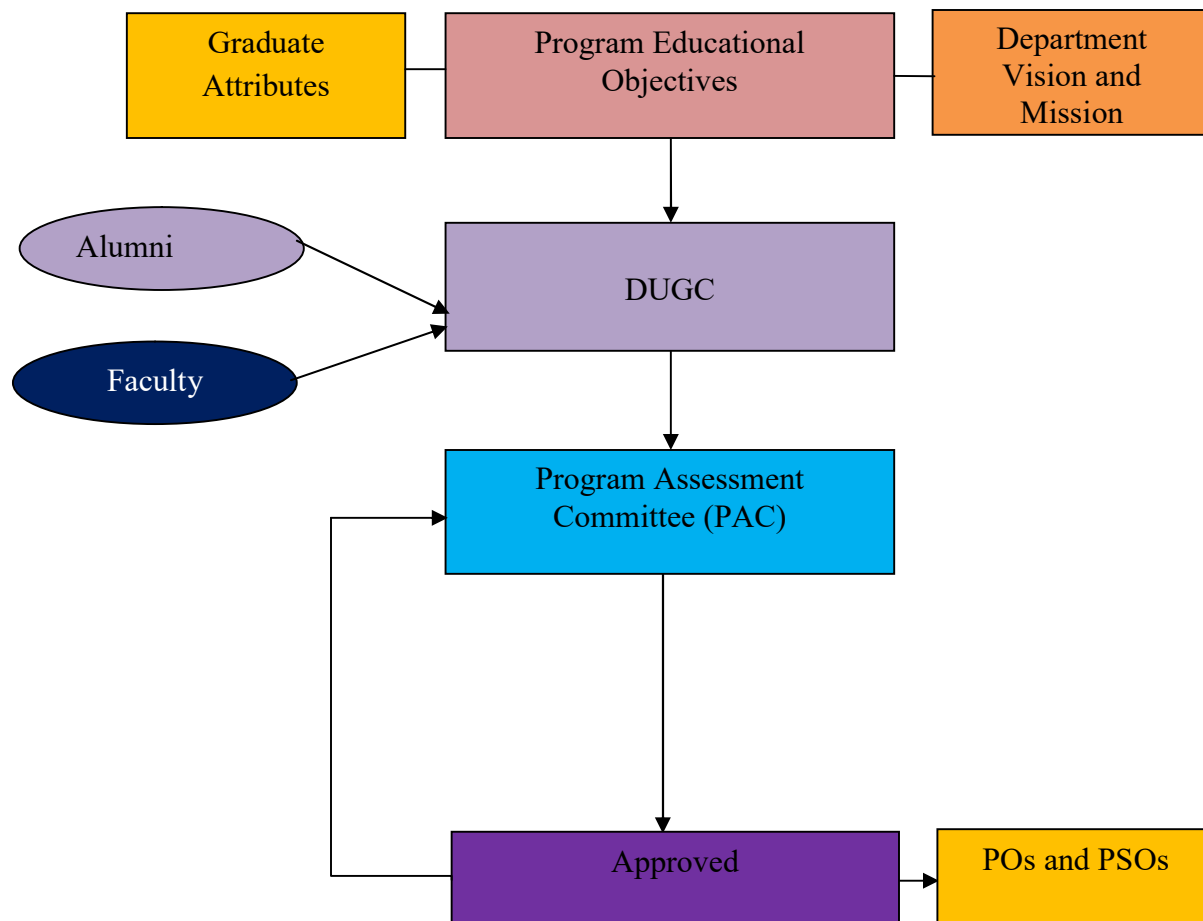

Figure B.2.1.4a: Procedure for Defining Program Outcomes and Program Specific Outcomes
- The Program Assessment Committee considers the defined mandatory graduate attributes (GAs) from the NBA guidelines, Program Educational Objectives, Vision and Mission statements of the Department and views from the stakeholders. The committee develops POs& PSOs and discusses with the senior faculty members of the Department. The developed POs & PSOs are put up in DUGC (earlier Board of Studies) meeting for review and approval. Process of defining POs and PSOs is depicted in the flowchart as shown in Figure B.2.1.4a.